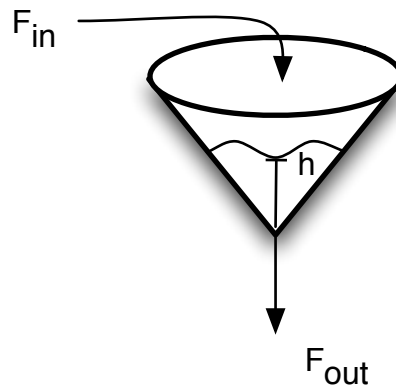

Figure 1: ACME surge tank
5. (45 points) The ACME Chocolate Company has a conical surge tank in the production line where they make their new line of truffles. As shown in Figure 1, warm, liquid chocolate is fed into the tank near the top of the tank and exits the tank at the bottom, through a valve, where it is used to coat the truffles as they pass by on a conveyor belt.